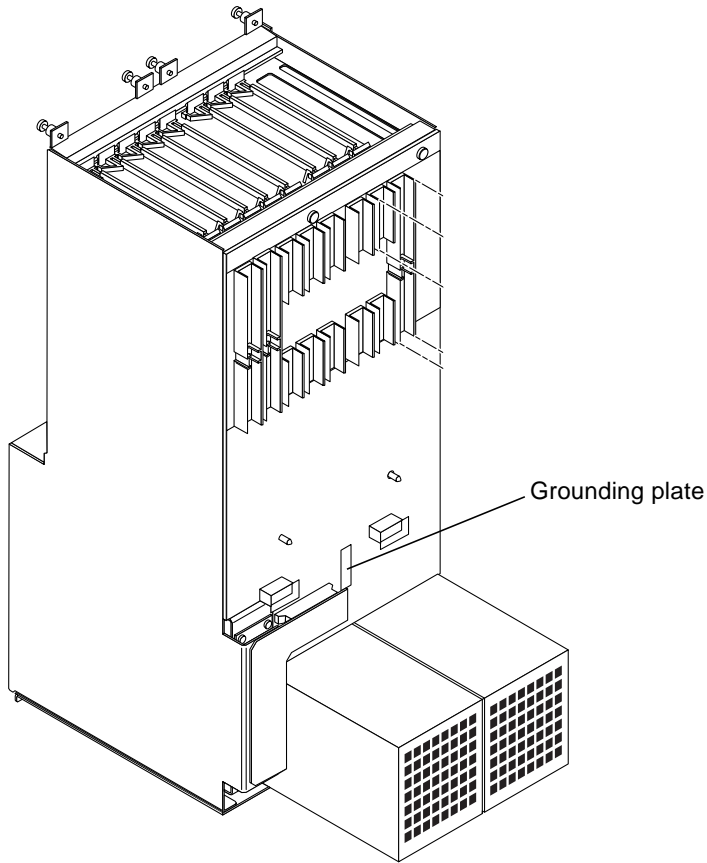

FIGURE 2-8 Installing a Grounding Plate
- 3. Remove the two screws and install a grounding plate to connect the two studs (FIGURE 2-8).**